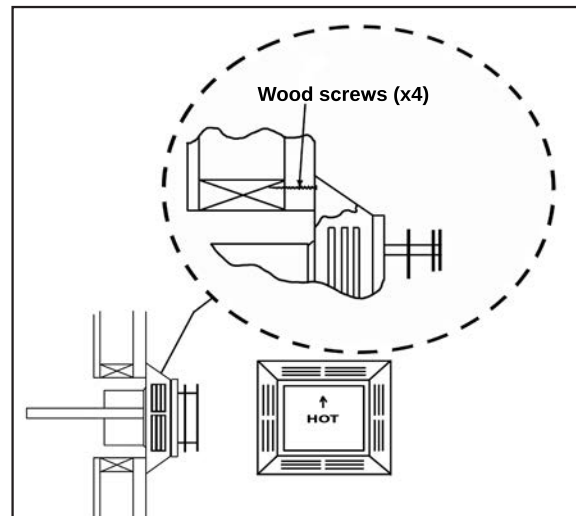

Figure 27: Installing Horizontal Vent Termination.
- (a) The four (4) wood screws provided should be replaced with the appropriate fasteners for stucco, brick, concrete, or other types of siding.
- (b) For buildings with vinyl siding, a vinyl siding standoff, should be installed between the vent cap and the exterior wall (see Figure 27). Attach the vinyl siding standoff to the horizontal termination. The vinyl siding standoff prevents excessive heat from possibly melting the vinyl siding material. Note that the horizontal vent termination bolts onto the flat portion of the vinyl siding standoff (shaded area in Figure 27), so that an air space will exist between the wall and the vent termination.